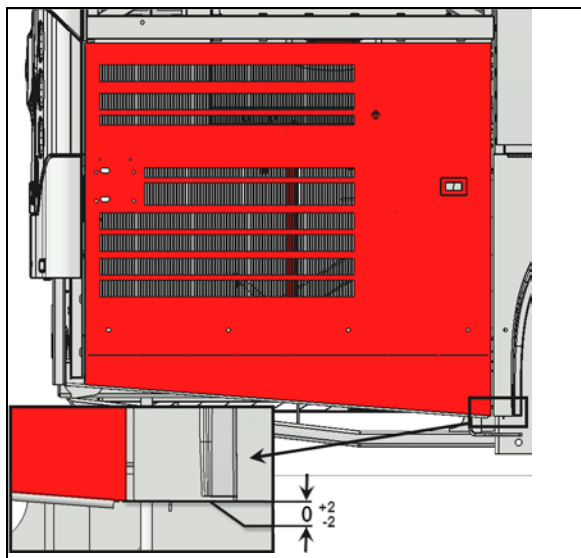

FIGURE 51
3. Compare the lower edge of the door level with the lower edge of the rear fender. The door should be flush with the fender (FIGURE 51).